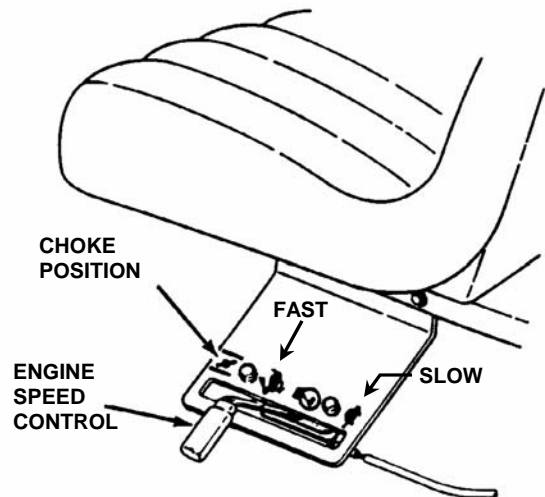

FIGURE 2.6
5. Move engine speed control to the choke position to start a cold engine. See Figure 2.6.
5. Move engine speed control to the choke position to start a cold engine. See Figure 2.6